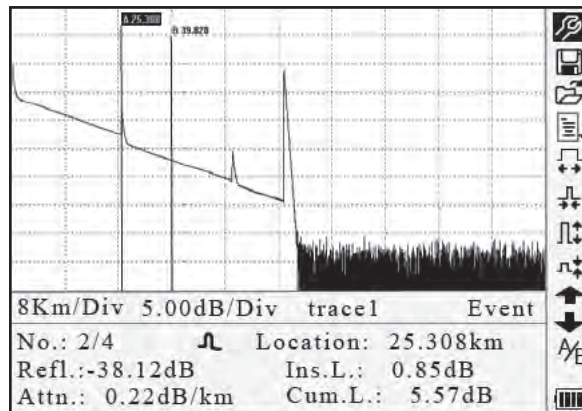
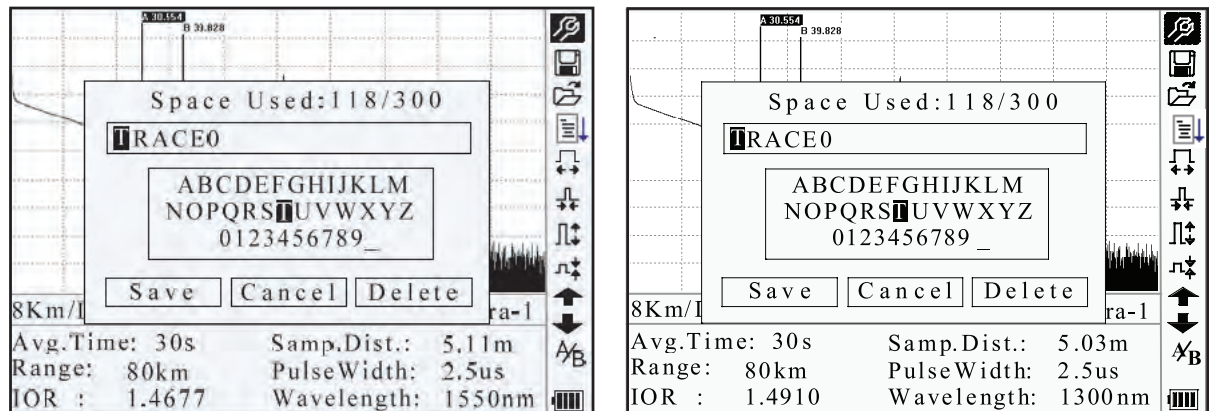
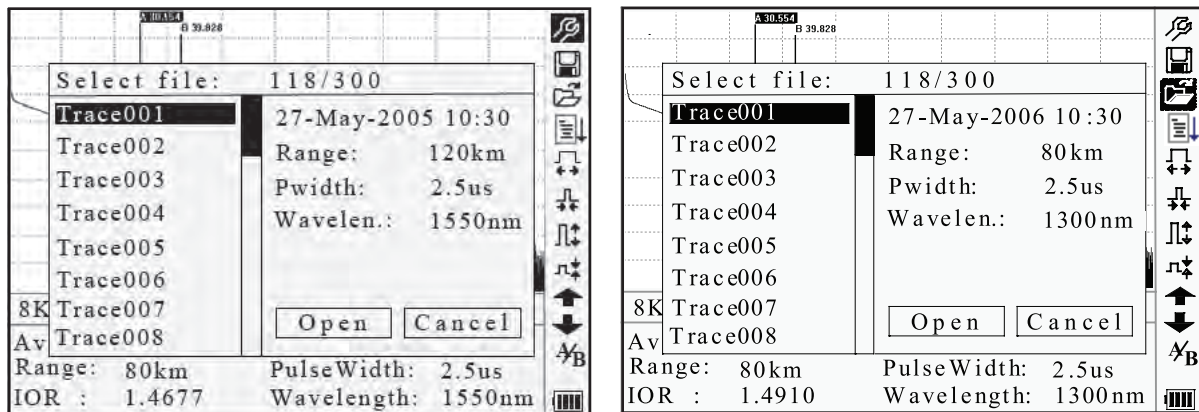

Figure 4-4. Trace Measurement
Figure 4-6. Save a Trace
Figure 4-7. Browse Saved Traces
Note: After a certain period of time, the trace displays on the GUI. The trace in the figure below is a trace during measurement, which will be refreshed for every certain period of time to demonstrate the whole process in realtime. But at the end of measurement the trace will be complete, as shown in Figure 4-4.
Under GUI (Figure 4-4) press **↩** and the items in the information window will display in this order: measurement parameters g analysis information g events list g marker A/B information g fiber information g measurement parameters.
Under GUI (Figure 4-4) press **↩** until the events list information appears in the information window.
Under GUI (Figure 4-4) use **▲** and **▼** to highlight **A/B**, and then press **Enter** to switch between marker A/B.
Under GUI (Figure 4-4) press **↩** to switch the information window to marker A/B information.
1. Under GUI (Figure 4-4) use **▲** and **▼** to highlight **↔**, and then press **Enter** to zoom out the trace horizontally.
Under GUI (Figure 4-4) use **▲** and **▼** to highlight **↔**, and then press **Enter** to zoom in the trace horizontally.
1. Under GUI (Figure 4-4) use ▲ and ▼ to highlight , and then press **Enter** to zoom out the trace vertically.
Under GUI (Figure 4-4) use ▲ and ▼ to highlight , and then press **Enter** to zoom in the trace vertically.
1. Under GUI (Figure 4-4) use ▲ and ▼ to highlight , and then press **Enter** to enter (Figure 4-6).
1. Under GUI (Figure 4-4) use ▲ and ▼ to highlight , and then press **Enter** to confirm (Figure 4-7).